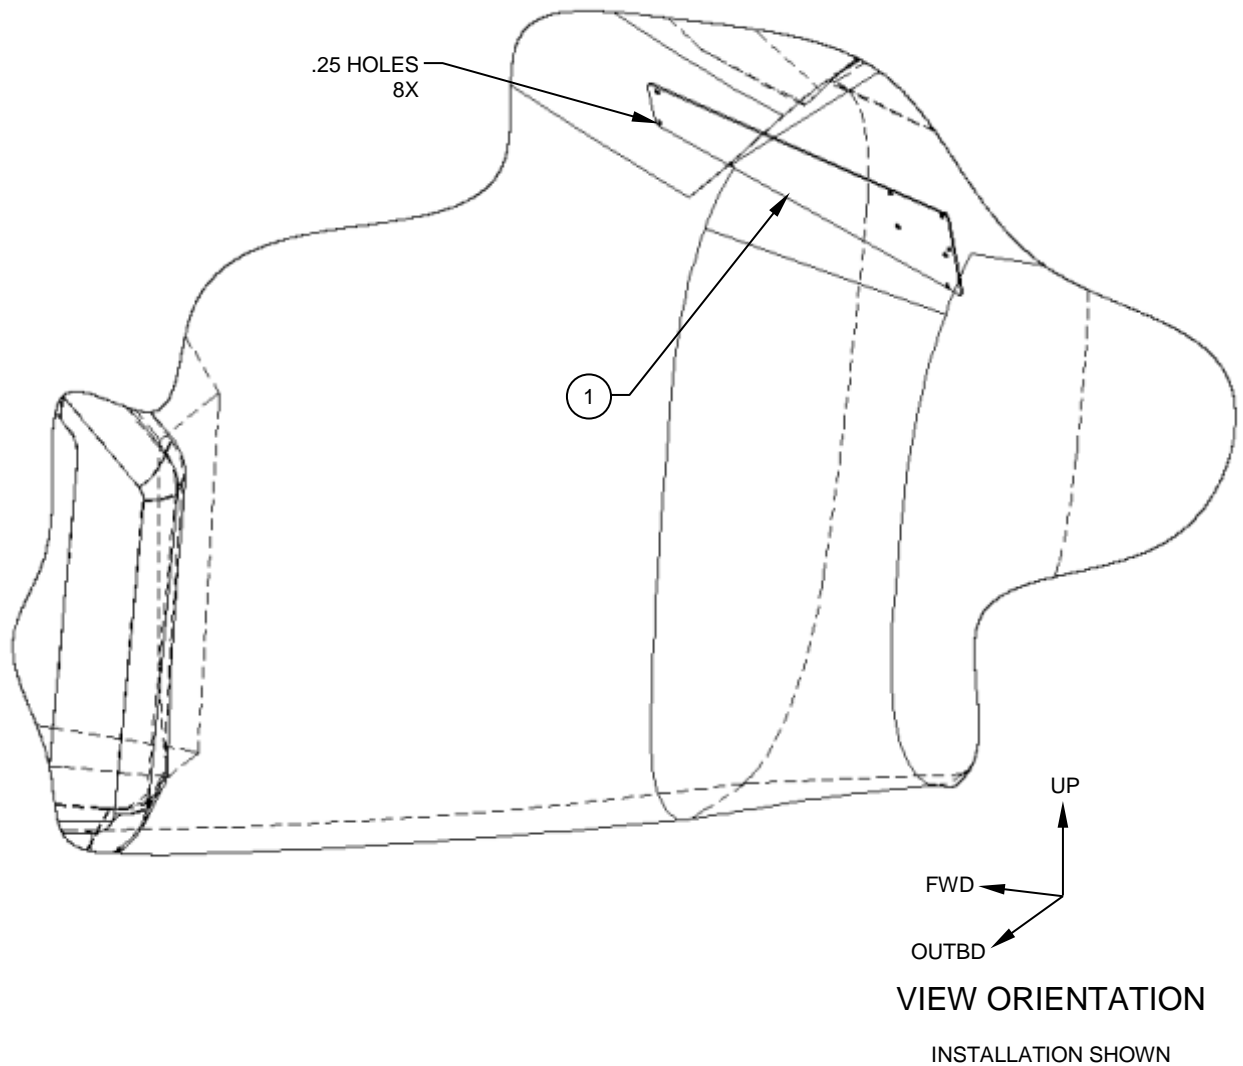

Figure 1
2. Pre-fit the Panel, Assy (Item 1) by lining up the edges of the panel, assy with the existing panel, and center visually. Reference Figure 1.
3. With the panel lined up use the pre-cut .25 holes and a felt pen to mark out the locations for the Velcro, Details (Items 4) and remove the panel (Item 1). Reference Figure 1.